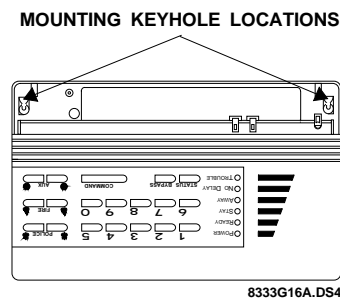

Figure 3. Mark Mounting Keyhole Locations
- Hold the panel *upside-down* against the wall at the desired height and location (see Figure 3). If you plan on attaching the Slim Line Hardwire Interior Siren (60-483) to the right side of the panel, you will need at least 3 3/4 inches to the right of the panel.